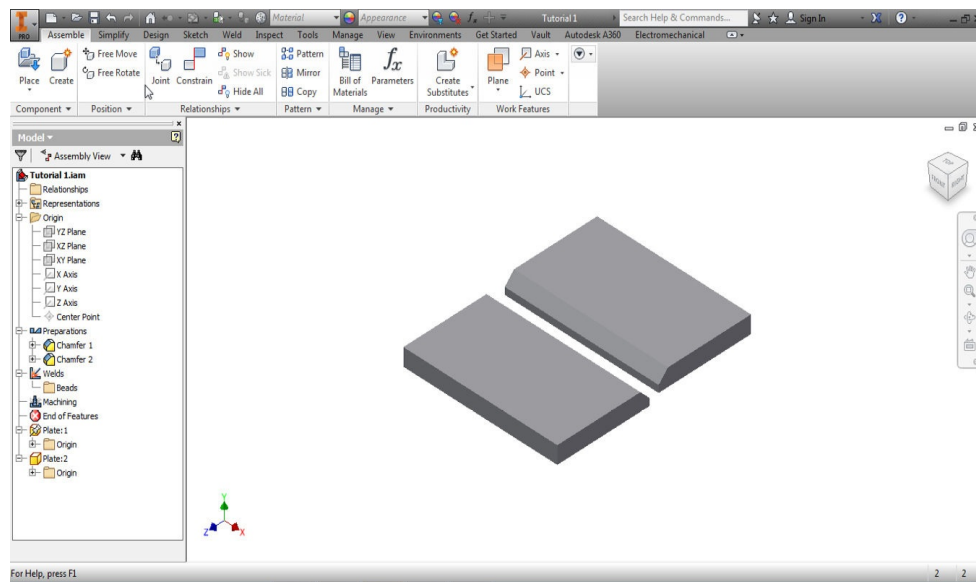

Figure 16-21 Weldment after chamfering the two plates
5. Choose the **Return** tool from the **Return** panel of the **Weld** tab to finish the preparation (chamfering) of the component for weldment. The weldment assembly after chamfering the edges of the two plates is shown in Figure 16-21.